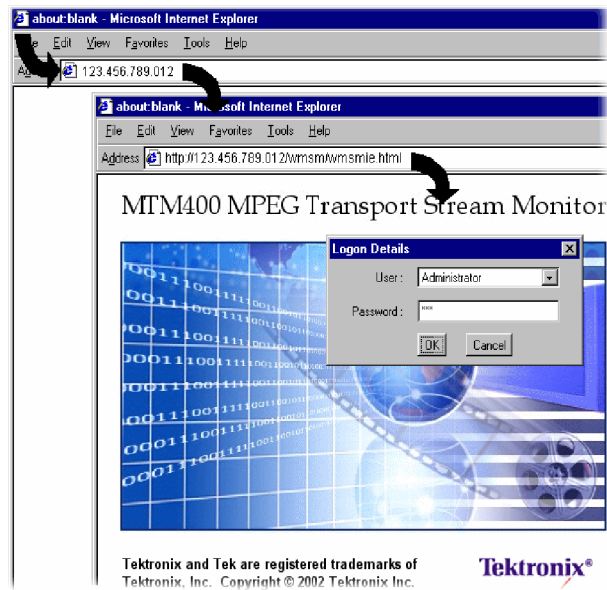

Figure 2: Logging in to the monitor (RUI v2.6.1 and below)
3. After the Java applet is downloaded, the monitor splash screen will appear, and then be quickly overlaid by the Login Details dialog box. (See Figure 2.)